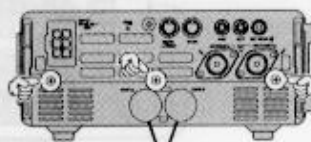

Figure 2
5. Remove the plastic cap, which is same label ("A" or "B") of the battery compartment which is the **FNB-78** installed, from the top bottom cover, before turning the plastic cap so that the small project of the cap is aligned with the slot of the bottom cover (Figure 2).